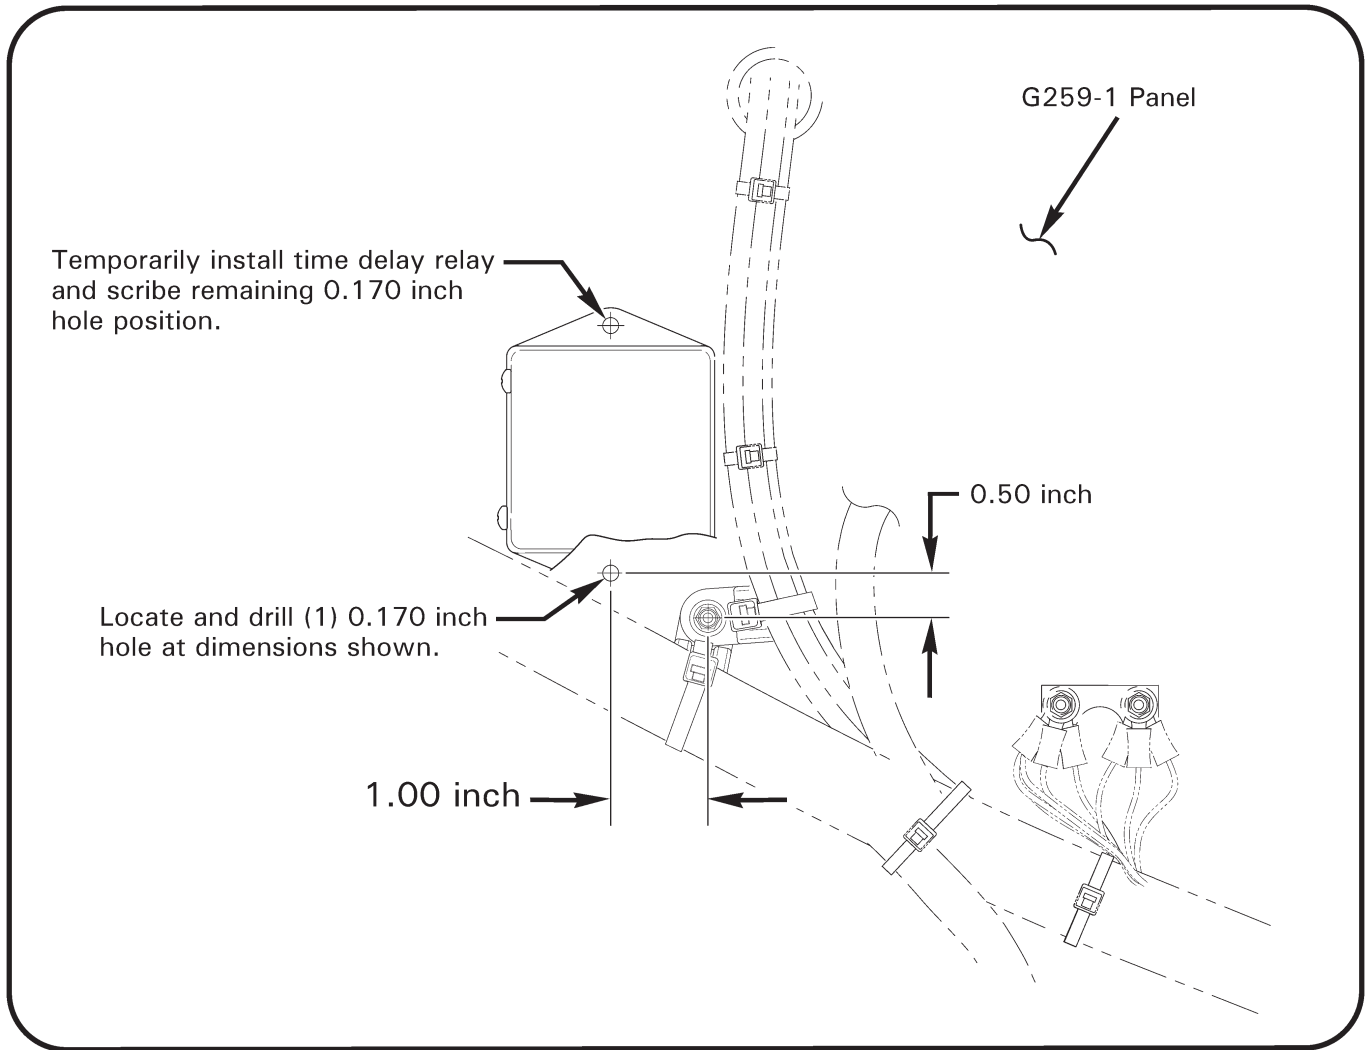

FIGURE 2
6. Refer to Figure 2. Lay out (lower) hole location for XESR10-S01-FP-0787 time delay relay as shown. Position vacuum cleaner nozzle adjacent to capture debris. Drill (1) 0.170-inch hole. Deburr hole and clean up debris. Temporarily install time delay relay in newly drilled hole using appropriate sized CLECO sheet metal fastener. Using time delay relay as template, trace remaining hole with scribe. Remove time delay relay and using vacuum cleaner, drill (1) 0.170-inch hole thru center of scribed hole. Deburr hole and clean up debris.